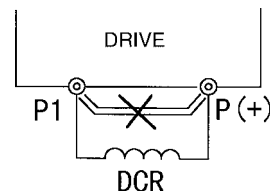
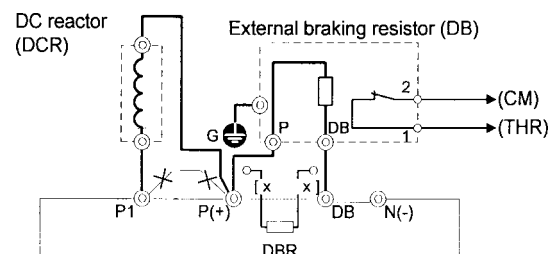

Fig. 2-3-3
Fig. 2-3-4 Connection (10 Hp or less)
2. When you need to connect source type logic, refer to Basic Connection Diagram Fig. 2-3-3 and Fig. 2-3-4 and Technical Information Manual. (Sink Logic is commonly used in the USA and Source Logic is commonly used in Europe.)
(5) Others